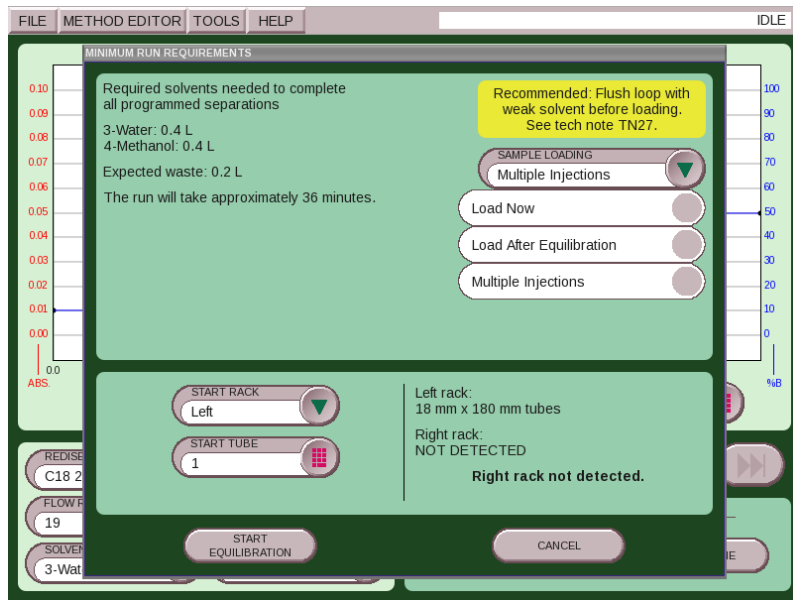

Figure 4-1 Selecting for multiple injections
3. If you want to automatically perform multiple injections (or perform a single injection using the AutoInjector Module), select the AUTO INJECTOR drop down as shown in Figure 4-1. This is the default selection if an AutoInjector Module is present. If an Auto Sampler Module is present, you will select the AUTO SAMPLER dropdown.